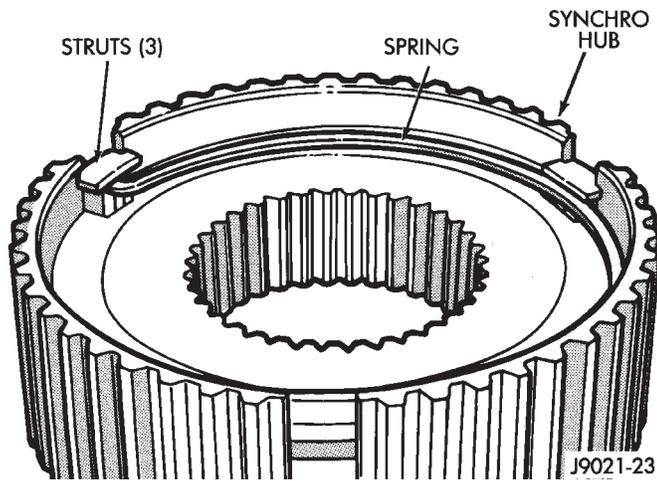
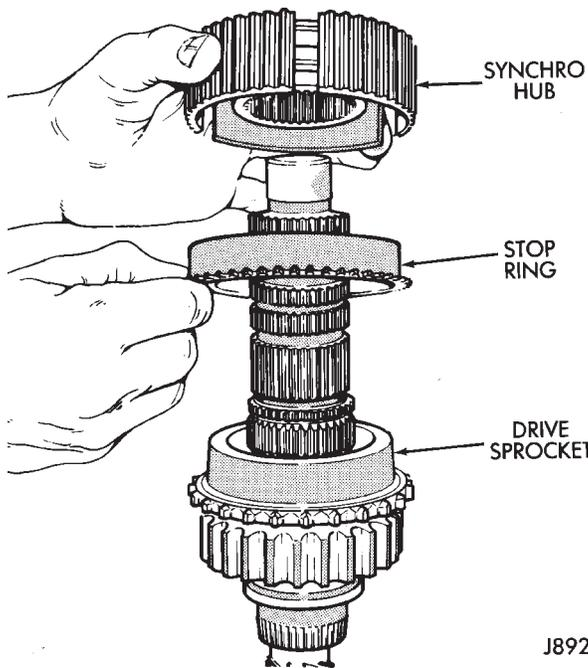

Fig. 57 Installing Synchro Springs And Struts In Hub
Fig. 58 Sprocket, Stop Ring And Hub Installation
(2) On synchro models, install struts and spring(s) in hub (Fig 57).
(3) Lubricate drive sprocket bearings, stop ring and hub with automatic transmission fluid. Bearings can also be lubricated with petrdeum jelly if desired.
(4) Install sprocket, stop ring (synchro models only) and hub on mainshaft (Fig 58). **Be sure to seat hub struts on stop ring lugs.**
(5) Install spacer washer on hub, if equipped.